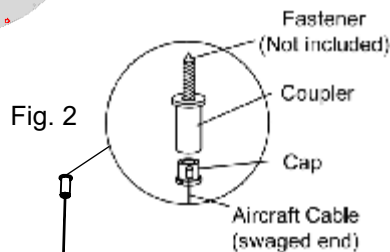

Fig. 2
2. Pass the aircraft cables through the caps (see Fig. 2).